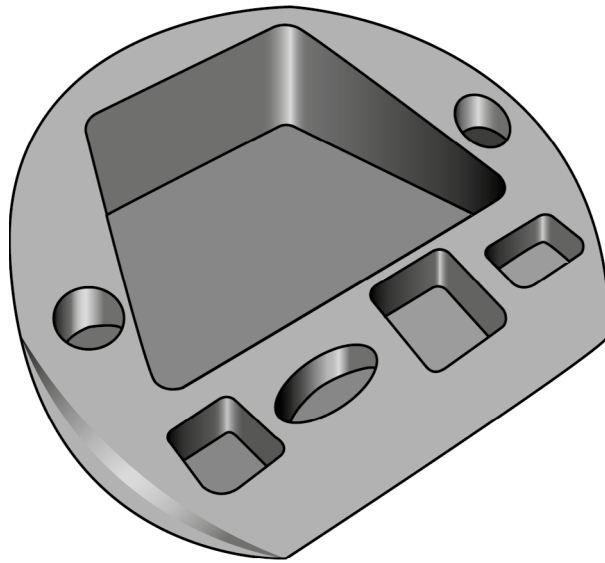

Figure 3
- 3 Figure 3 shows an organiser that has been vacuum formed.